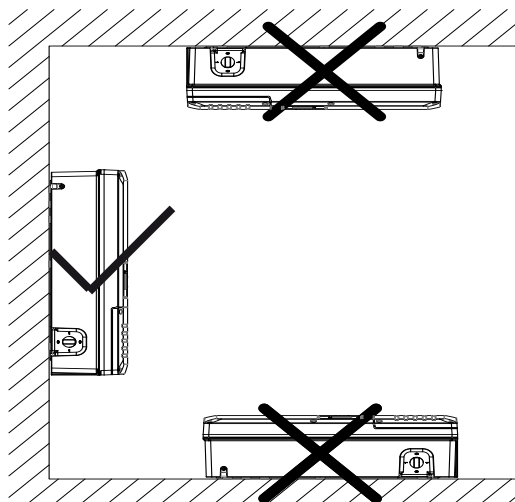

Figure 10: Instructions for wall mounting
7. Secure the inverter with a second person and with both hands on the housing side and base plate, and move to the mounting location. (See Figure 10 on page 20)